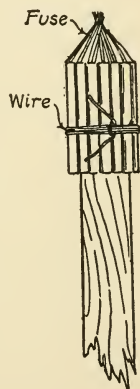

FIG. 298. — A Shooting-torch.
**A Shooting-torch**, such as is shown in Fig. 298, is a scheme that is simple to carry out. It consists of a stick about eighteen inches long, with fire-crackers bound